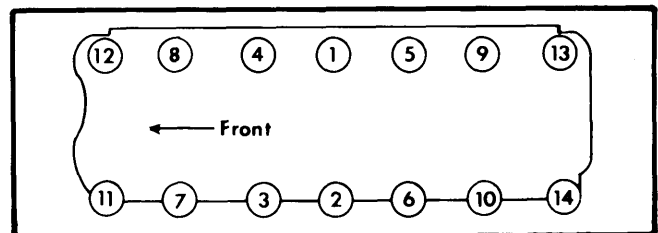

Fig. 2 Cylinder Head Tightening Sequence
3) Install cylinder head and tighten head bolts in sequence. (see Fig. 2). Reverse removal procedure to replace all remaining components.